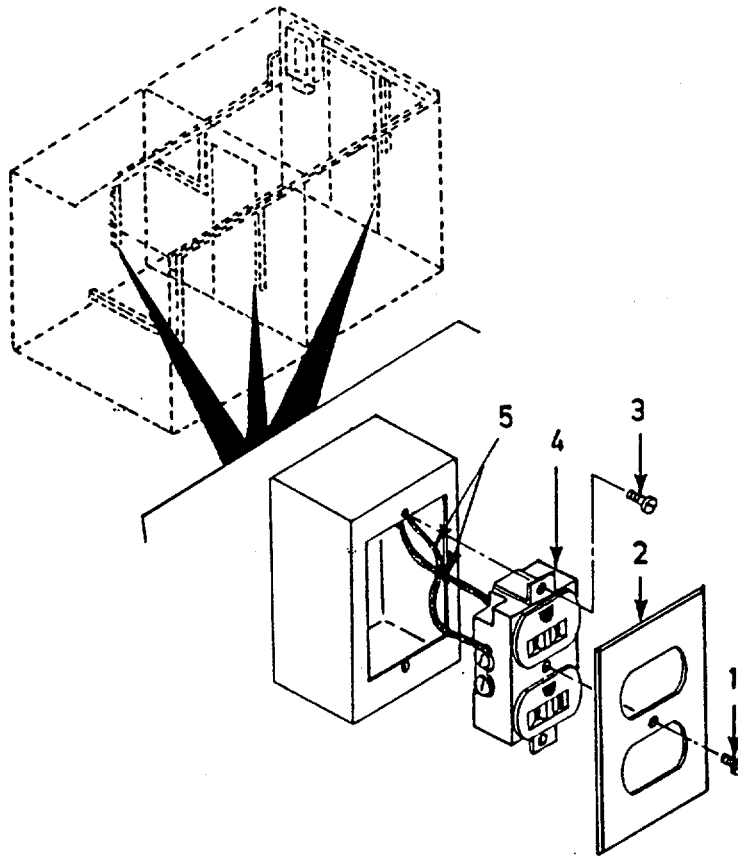

Figure 4-55. Wall Receptacles (Double)
- a. Inspect. (See Figures 4-55, 4-56, and 4-57.)
- (1) Check shelter wall equipment receptacles for loose connections and excessive wear.
- (2) Inspect equipment receptacles covers for secure mounting.
- (1) Wall Receptacles (Double). (See Figure 4-55.)
- (a) Remove equipment receptacle screw (1) and cover (2).
- (b) Remove equipment receptacle screws (3).
- (c) Pull receptacle (4) from conduit.
- (d) Tag wall receptacle wires (5) and disconnect.
- (e) Remove receptacle (4).
- (f) Connect wires (5) to equipment receptacles (4) and remove tags.